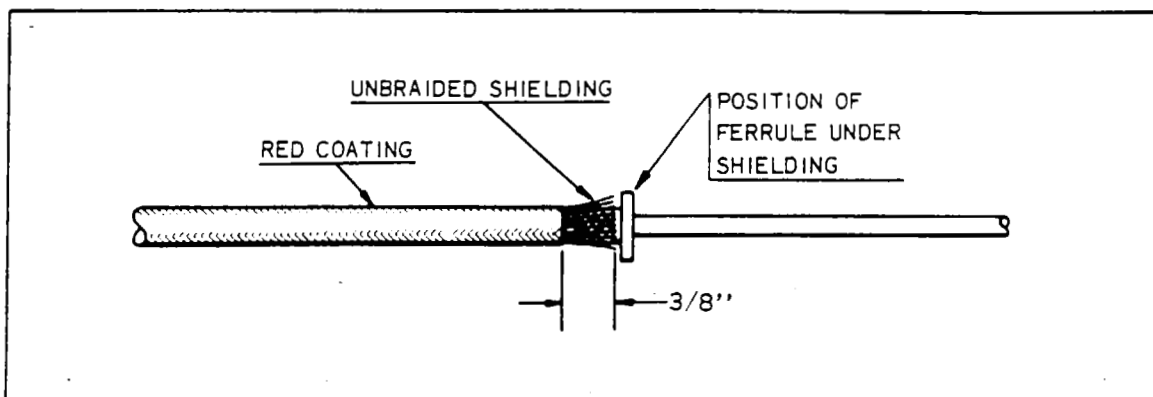

Figure 7A-21. Forming Shielding Around Ferrule
9. Using a scribe or similar pointed tool, unraid 3/8 inch of braided shielding. (Refer to Figure 7A-20.) Wrap a single thickness of electrical tape around unbraided strands to facilitate insertion of lead end thru hole in cable outlet plate.